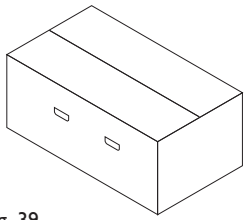

Fig. 39
1. Remove staples, open flaps and remove the cardboard sheet. Remove the polystyrene side pieces and literature. Two people can then lift out the boiler (Figs. 39 & 40).